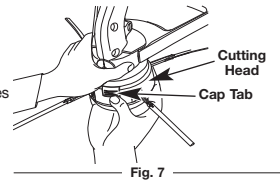

Fig. 7
1. Remove the cutting head cap by pressing in on both cap tabs and then pulling down on the cap. (Fig. 7)